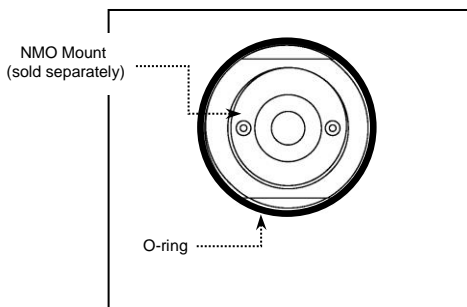

Fig. 3
- A. The EM-M22001 antenna is designed for installation to a high quality, low loss NMO mount (sold separately, see Fig. 3).
- A. Press O-ring around the base of the NMO antenna mount as shown in Figure 3.